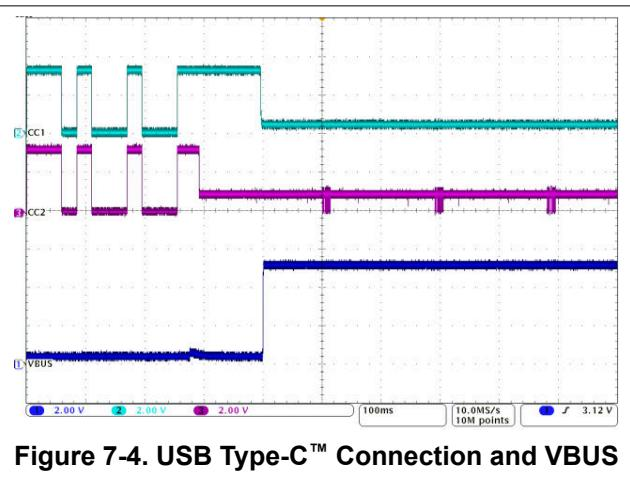

Figure 7-4. USB Type-C™ Connection and VBUS
- Verify that VBUS is reaching 5 V when connected, (see Figure 7-4)